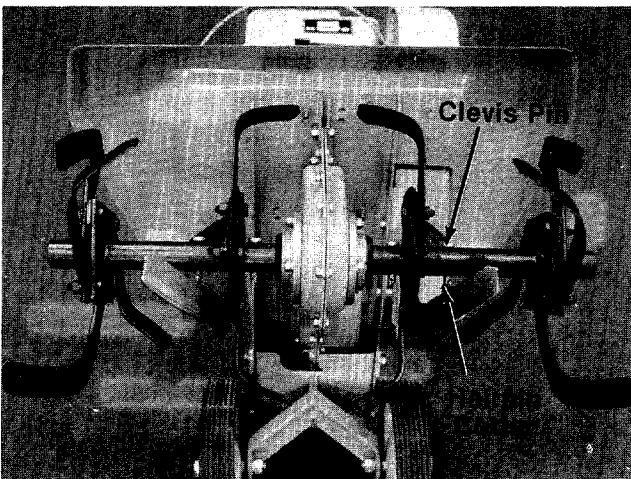

FIGURE 11.
Check to be certain the tine assemblies are on the tine shaft so that the sharp edge enters the soil first. See figure 11.
- Remove both outer tines. Place tine removed from left hand side on right hand shaft. Place tine removed from right hand side on left hand shaft. Make sure that the sharp edge of the tines enters the soil first. Secure with clevis pins (P) and internal cotter pins (Q). See figure 11.